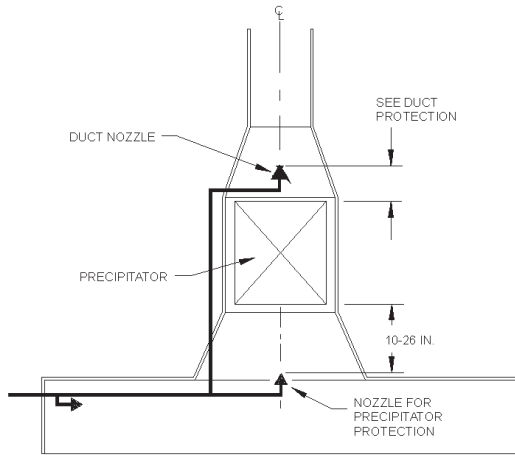

Figure 3-12.3. Nozzle Placement for Single Electrostatic Precipitator.
The duct nozzle(s) must be installed above the precipitator and aimed in the direction of air flow. One (1) Model NL-UB nozzle must be used to protect the precipitator. The nozzle is to be centered 10 to 26 inches before the precipitator with its discharge point aimed at the center of the precipitator. See **Figure 3-12.3.**